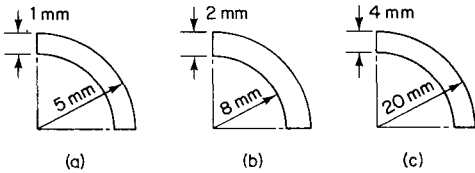

Fig. 1.41
15. Calculate the bend allowance needed to make each of the bends shown in Fig. 1.41.